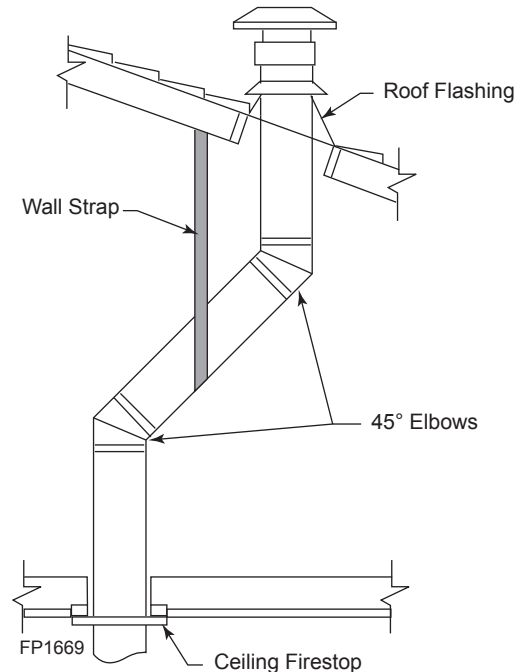

Figure 24 - Offset with Wall Strap and 45° Elbows
1. Determine the route your vertical venting will take. If ceiling joist, roof rafters or other framing will obstruct the venting system, consider an offset. Refer to Figure 24 to avoid cutting load bearing members.
NOTE: If an offset is needed to avoid obstructions, you must support the vent pipe every three (3) feet. Use wall straps for this purpose. *Page 18, Figure 24*. Whenever possible, use 45° elbows instead of 90° elbows. The 45° elbow offers less restriction to the flow of the flue gases and intake air.
5. Place the flashing over the pipe section(s) extending through the roof. Secure the base of the flashing to the roof and framing with roofing nails. Be sure roofing material overlaps the top edge of the flashing as shown in *Page 18, Figure 24*. There must be a 1" clearance from the vent pipe to combustible materials.